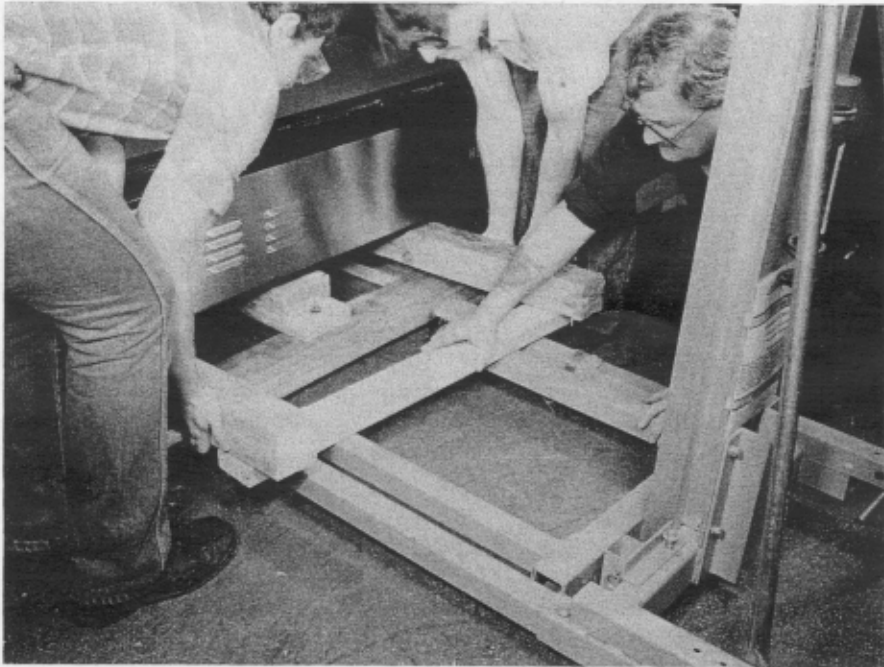

Figure 2-6
2. Position Genie Lifts between 4" x 4" x 7" boards at front and rear of oven. Lift the two 4" x 4" x 7' boards as shown in Figure 2-6 and place a 2" x 4" x 4' across the Genie Lift forks and under the two 4" x 4" x 7' boards.